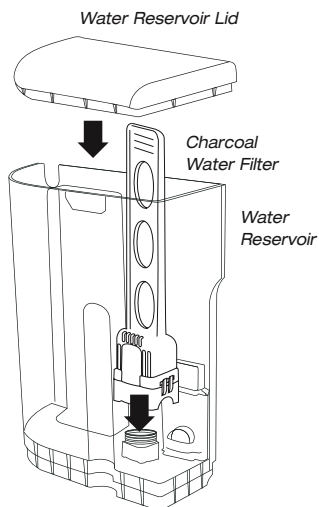

figure 7
7. Place the assembled water filter holder into the water reservoir, pushing it down to fit into place (see figure 7).